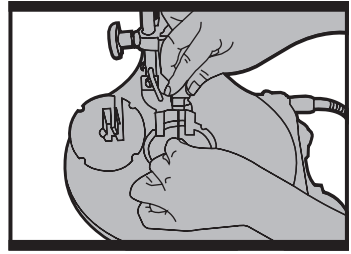
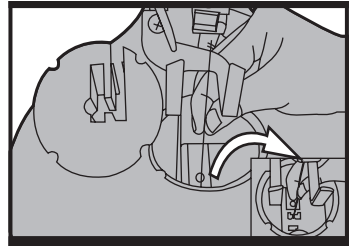

Fig.C1
Fig.C2
3. Changing the blade (see Fig.C1 & Fig.C2)